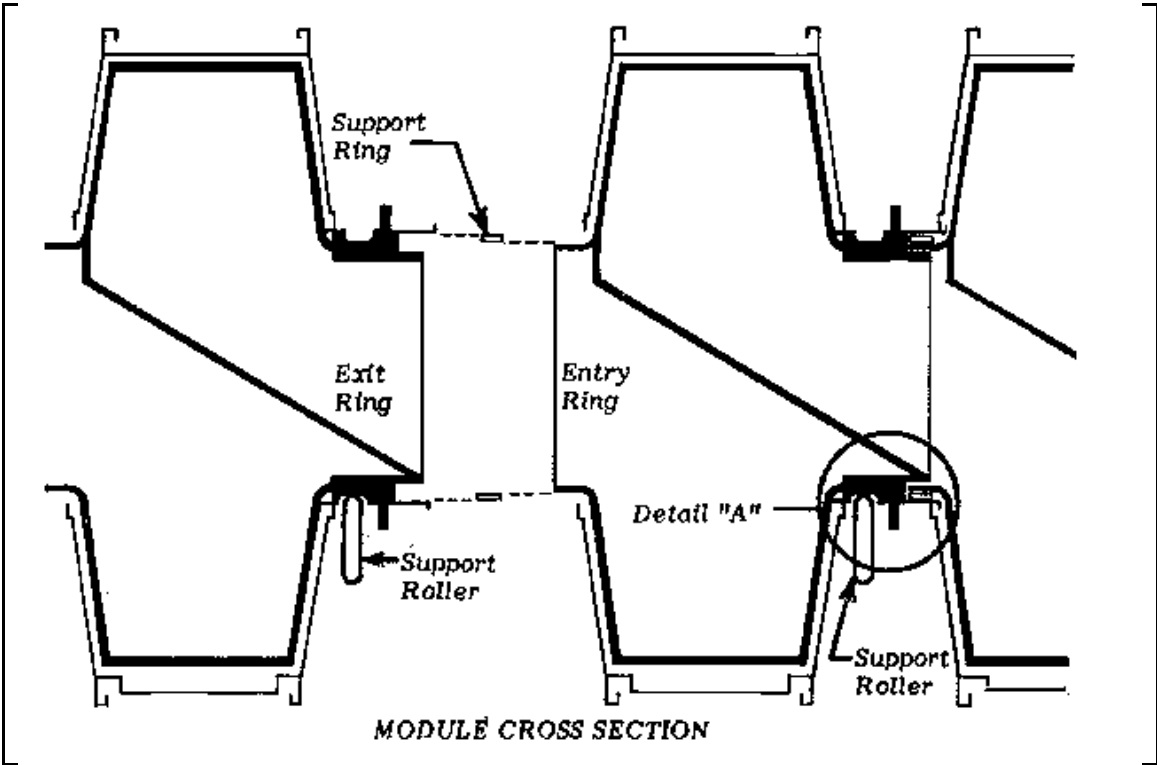
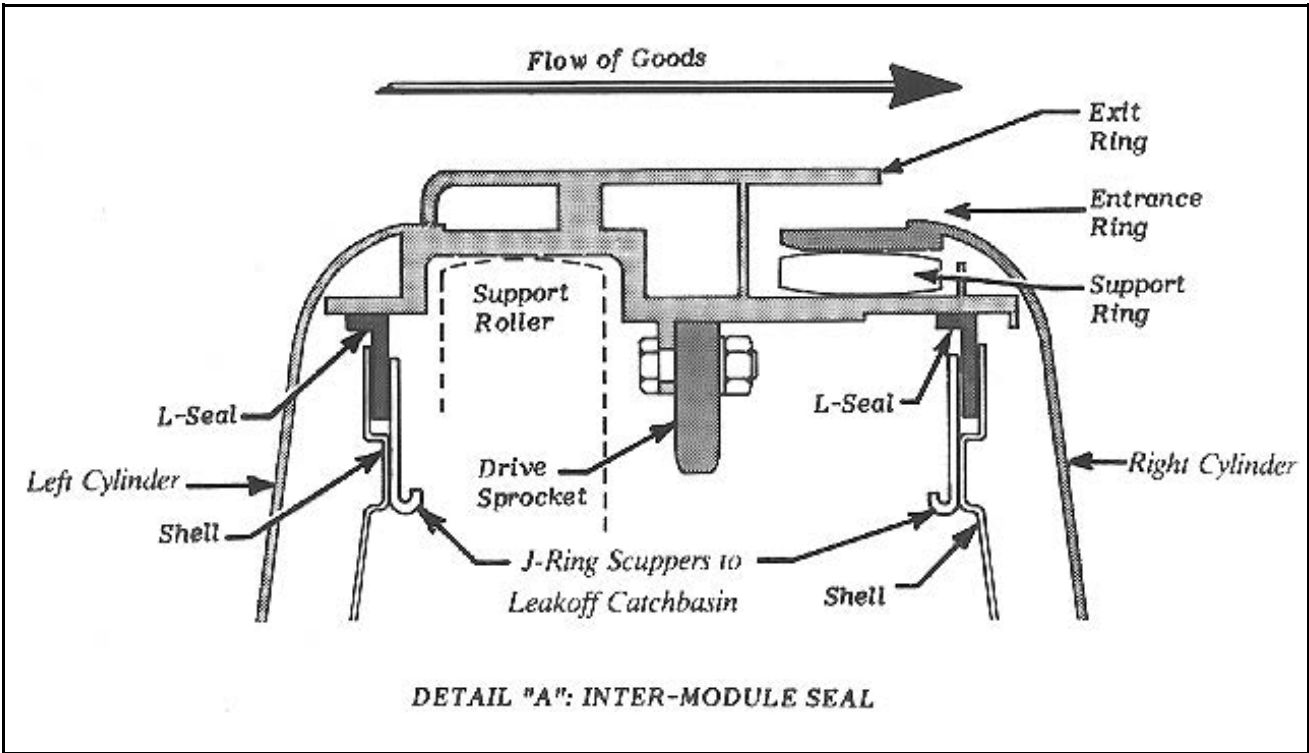

FIGURE 5 (MSIND410AE)
FIGURE 6 (MSIND410AE)
2. Before the modules are mated together, the white plastic support ring must be installed on the inside of the exit ring in the cavity shown in FIGURE 5, “Module Cross Section” and FIGURE 6 “Detail A”. When installed, the ends of the support ring must press against each other to insure a tight fit.